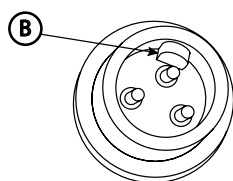

Figure 15. Male Connector
3. On the corresponding male connector, locate the key tab (B) as shown in Figure 15.